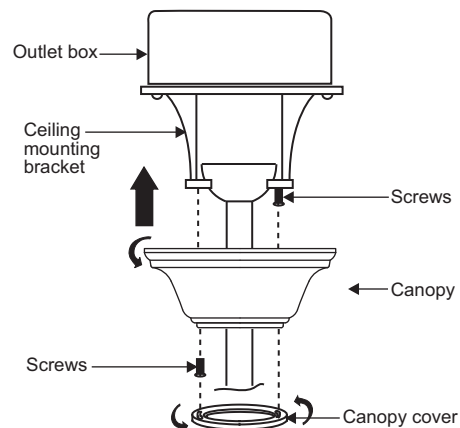

Fig. 15
Step 2. Slide the canopy up to the mounting bracket and place one of the key hole slots over the mounting screw on the mounting bracket. Rotate the canopy until the screw head locks in place at the narrow section of the key hole. See figure 15.
NOTE: Adjust the canopy screws as necessary until the canopy and canopy cover are snug. (Fig. 15)